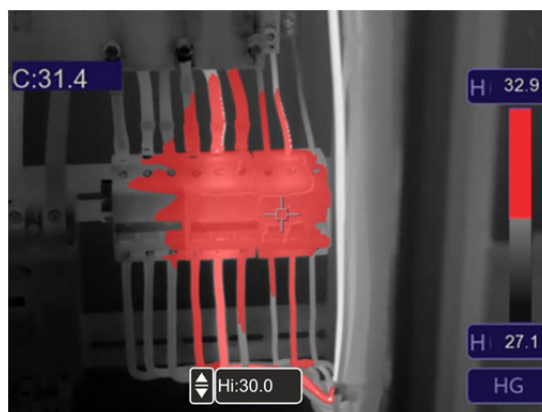

Fig. 40: Selection of isotherm line Alarm high Temp
5. Touch the “Hi” field at the bottom of the display and use the arrow keys ▲ or ▼ to set the value of the **maximum** temperature threshold above which the instrument shows image spots in red colour, and the remaining spots in grey colour (see Fig. 40).